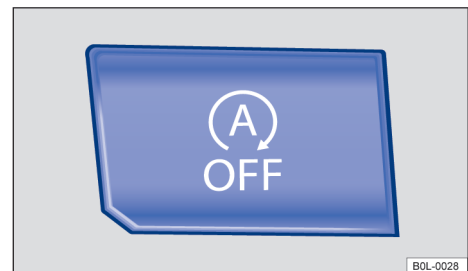

Fig. 86 In the upper part of the centre console: button for the start/stop system.
- Press the button  → Fig. 86 in the centre console to deactivate the system manually. If the start/stop system has been deactivated, the indicator lamp in the button lights up.
- Press the button  → Fig. 86 in the centre console again to activate the system manually again.